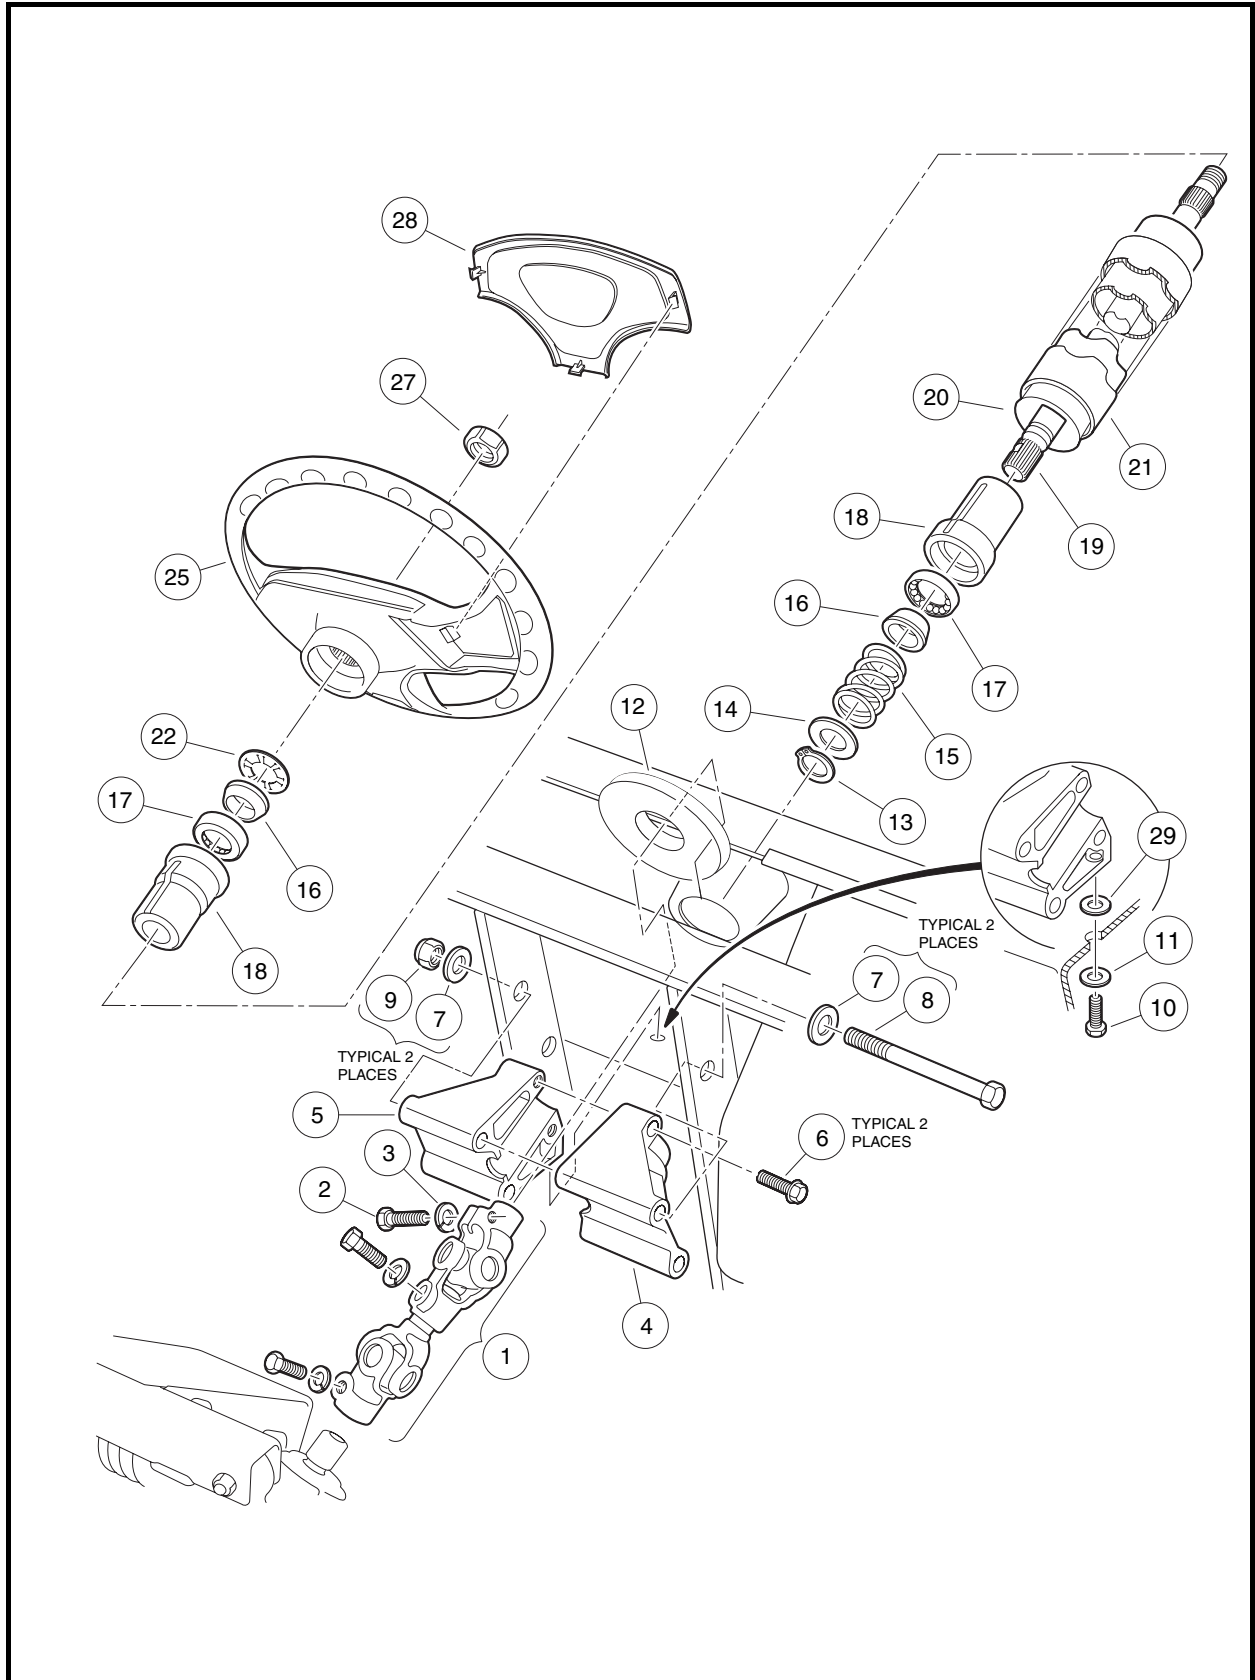

Figure 7-3 Steering Column
2. Remove the plate (28) (**Figure 7-3, Page 7-3**).
3. Match mark the steering wheel (25) and steering shaft (19) so when the steering wheel is removed it can be placed back in exactly the same position on steering column shaft.
4. Loosen the steering wheel nut (27) and back it off approximately 1/4 inch (6 mm). Do not remove the nut.
- 5.6. Remove the steering wheel nut (27) and the steering wheel (25) from the steering column (20) (**Figure 7-3, Page 7-3**).
1. Install the steering wheel (25) on the splines of the steering shaft (19). Be sure to align the match marks placed on the wheel and steering column in step 3 above (**Figure 7-3, Page 7-3**).
2. Install the steering wheel nut (27) and tighten to 13 ft-lb (17.6 N·m).
3. Install the plate (28) (**Figure 7-3, Page 7-3**).
6. Remove the upper bolt (2) and lock washer (3) from the universal joint (**Figure 7-3, Page 7-3**).
7. Remove the nuts (9), bolts (8 and 10), and washers (7 and 11) from the steering column mount (4 and 5).
1. Remove screws (6) and mount (4 and 5) from steering column. Remove boot (12) (**Figure 7-3, Page 7-3**).
2. While supporting steering column (21) on a workbench, remove snap ring (13) from shaft. **See following NOTE.**
4. Insert the shaft (19) from the bottom of the steering tube (20) (**Figure 7-3, Page 7-3**).
1. Install boot (12). Reinstall mount (4 and 5) onto the end of the steering column. Tighten bolts (6) to 20 ft-lb (27 N·m) (**Figure 7-3, Page 7-3**).
3. Position the steering column assembly in the vehicle while inserting the steering column shaft into the upper universal joint (1). The flat portion of the steering shaft spline (19) must be aligned with the bolt hole in the universal joint (1) before sliding the spline into the universal joint. While holding the steering column in place, attach it to the frame using bolts (8) washers (7) and nuts (9) (**Figure 7-3, Page 7-3**). Thread the nuts onto the bolts but do not tighten them.
4. Reinstall washers (29 and 11) and screw (10). Tighten to 20 ft-lb (27 N·m).
5. Install the bolt (2) and lock washer (3) on the upper universal joint and finger-tighten.
6. Tighten the two nuts (9) and bolts (8) to 17 ft-lb (23 N·m).
7. Tighten the bolt (2) on the upper universal joint to 15 ft-lb (20 N·m).
8. Check the other two bolts on the universal joint (1) to ensure that they are properly tightened to 15 ft-lb (20 N·m) (**Figure 7-3, Page 7-3**).
5. Remove the bolt (2) and flat washer (3) on the upper universal joint, then remove the rack assembly and universal joint from the vehicle (**Figure 7-3, Page 7-3**).